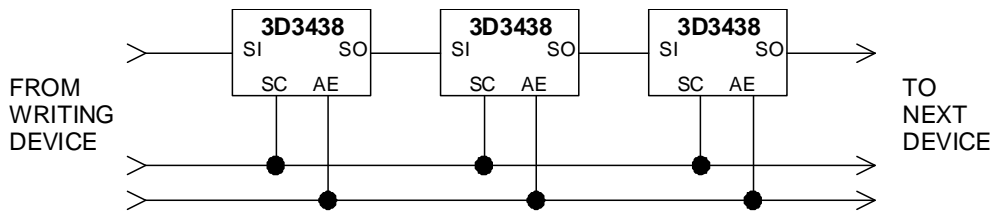

Figure 5: Cascading Multiple Devices
order, thus allowing cascading of multiple devices by connecting the serial output pin (SO) of the preceding device to the serial data input pin (SI) of the succeeding device, as illustrated in Figure 5. The total number of serial data bits in a cascade configuration must be eight times the number of units, and each group of eight bits must be transmitted in MSB-to-LSB order.